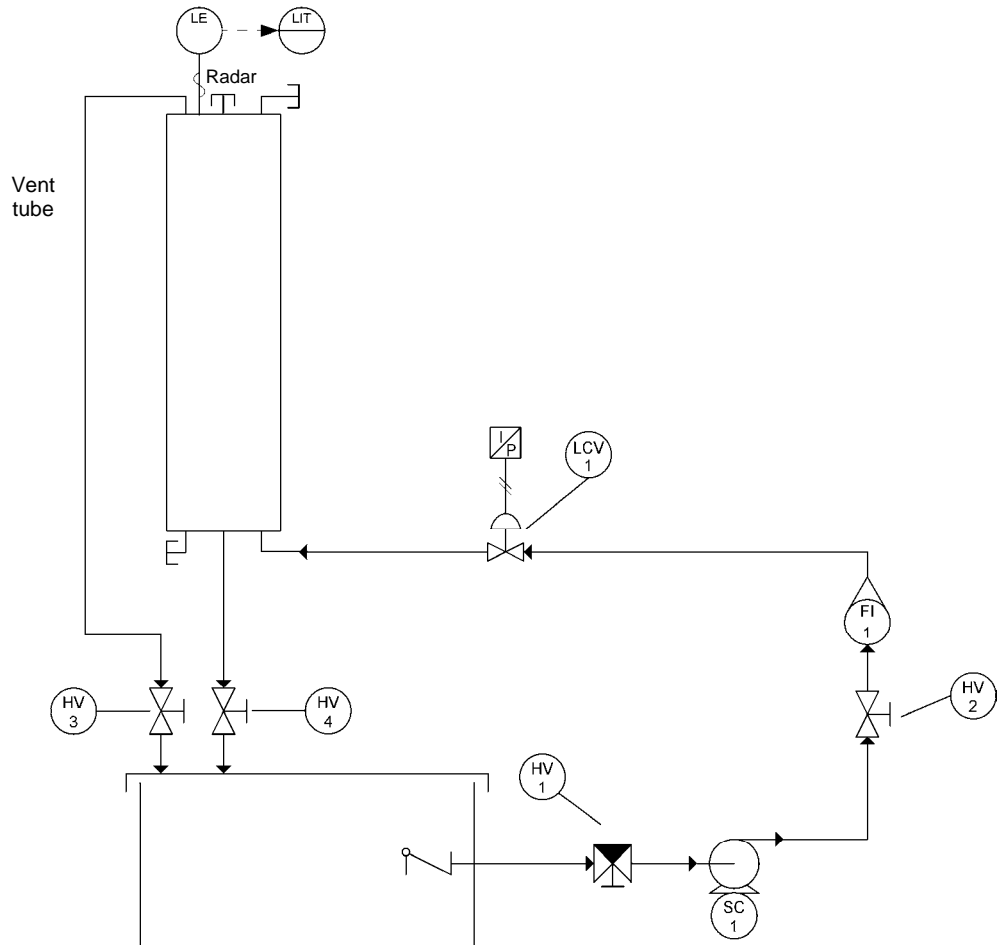
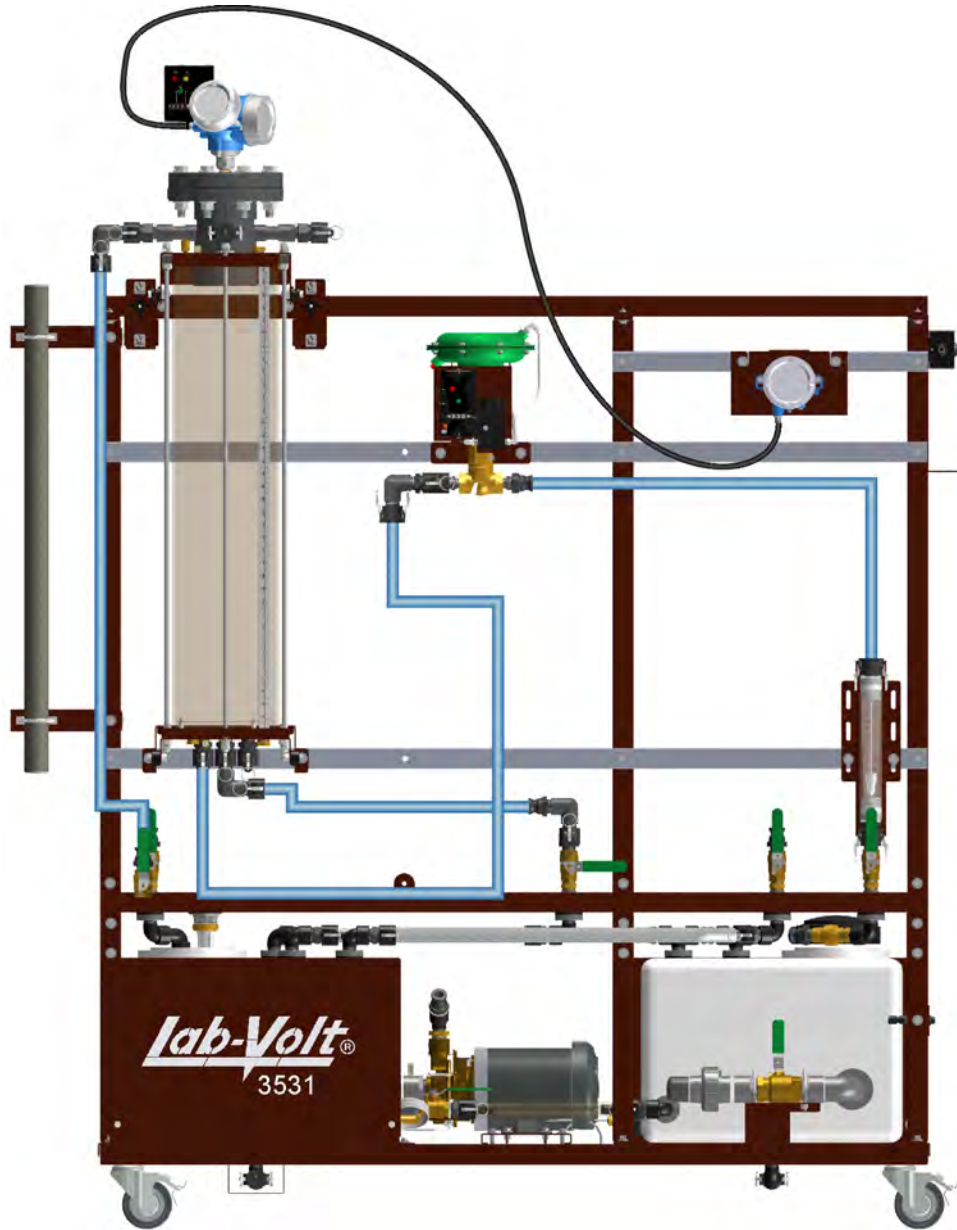

Figure 9. P&ID.
Figure 10. Setup.
① Probe	The radar sensor emits microwaves that are guided along the probe.
② Transmitter	The digital transmitter is the computational center and the main component of this device. It determines the time of flight of the microwave pulses and calculates the level from this information.
③ Fault panel	Contains one switch used to simulate a fault with the radar apparatus.
④ Ground terminal	The ground terminal is used to connect the device to ground.
⑤ 24 V dc input	Used to energize the radar level transmitter with a 24 V dc signal.
⑥ Electronics housing	The transmitter's electronics housing is used to store the electronic components of the transmitter inside a protective shelter.
⑦ Remote display	The remote display shows the measured level and other information related to the operation of the transmitter. The control keys can be used to manually set the parameters of the transmitter.
⑧ Display connection jacks	Connection jacks used to connect the transmitter and the remote display to each other.
⑨ Remote display cable	A 20 meters (66 feet) long cable allows connecting the remote display to the transmitter.
The Display connection jack showed by ⑧ is connected to the transmitter at the location shown by ②. You can clearly see how the Transmitter and the Remote display are connected with the cable at Figure 10
1. Connect the equipment according to the piping and instrumentation diagram (P&ID) shown in Figure 9 and use Figure 10 to position the equipment correctly on the frame of the training system. To set up your system for this exercise, start with the basic setup presented in the *Familiarization with the Instrumentation and Process Control Training System* manual and add the equipment listed in Table 6.